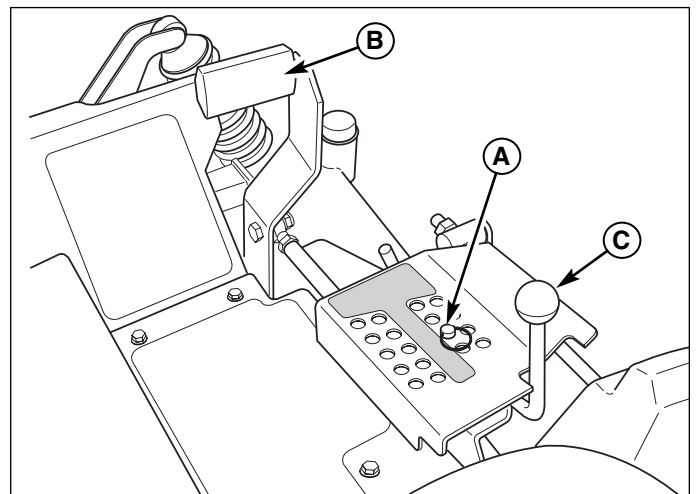

Figure 37. Mowing Height Adjustment
The cutting height adjustment pin (A, Figure 37) controls the mower cutting height. The cutting height is adjustable between 1-1/2" (3,8 cm) and 6" (15,2 cm) in 1/4" (0,64 cm) increments.
1. Depress the deck lift foot pedal (B, Figure 37) until it locks into the 6" (15,2 cm) position.
3. Depress the deck lift foot pedal then push the lock lever (C) towards the right to release the lock.